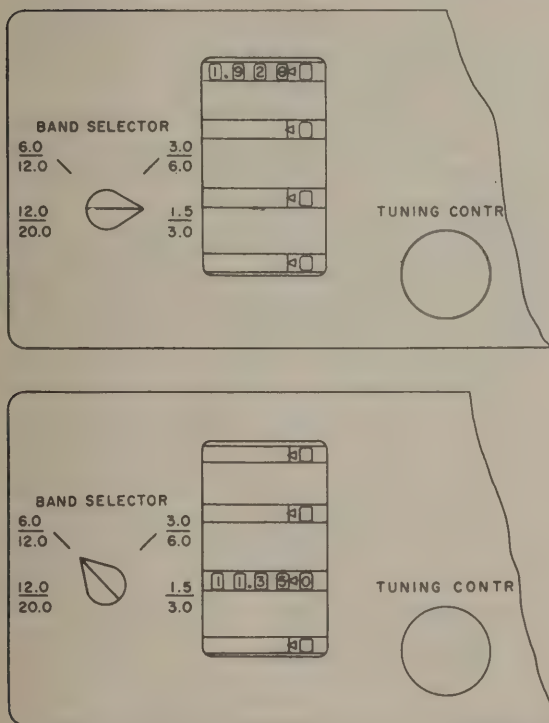

Figure 18. **TUNING CONTROL** dial, 1.5–3.0 mc and 6.0–12.0 mc band positions.
- (1) Set the TUNING CONTROL to the desired frequency. Figure 18 shows two positions of the TUNING CONTROL dial. The 1.5–3.0 mc position uses four digits and reads 1.920 mc. The 6.0–12.0 mc position uses five digits and reads 11.350 mc. The 3.0–6.0 mc and 12.0–20.0 mc positions also use four and five digits respectively. When the BAND SELECTOR switch is set in the two lower bands, the fourth digit reads either 0 or 5; when the switch is set in the two upper bands, the fourth digit travels through 0 to 9 and the fifth digit remains at 0. When frequencies are selected that do not fall on these exact numbers such as 1.917 or 11.357 mc, interpolation must be used. The transmitter, therefore, must be calibrated as shown in (10) below.
- (2) Set POWER AMPLIFIER TUNING and POWER AMPLIFIER LOAD-ING controls to the numbers that cor-